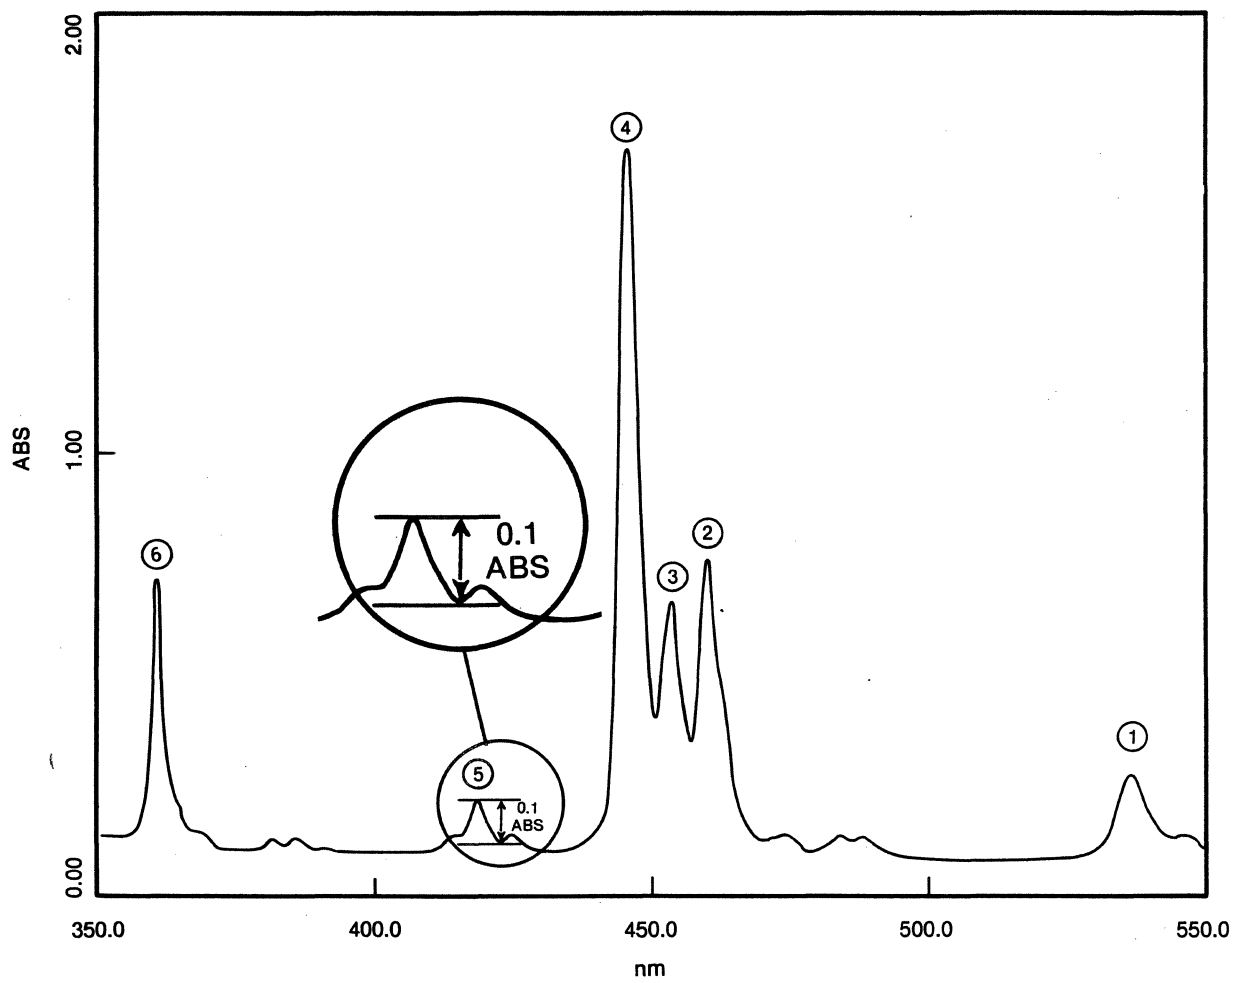

Figure 9-12. Calculation of Peak Height
Peak heights are always measured from the top of the peak to the baseline valley on the higher wavelength side of the peak. The NSV should be less than or equal to the height of the smallest peak in the spectrum. An example is shown in Figure 9-12.
Table 9-3. Peak-Picking Software Output (For Spectrum in Figure 9-12)
2. Determine the minimum peak height that should be selected by the peak picker. The peak height is measured from the top of the peak to the baseline valley on the higher wavelength side of the peak (see Figure 9-12).